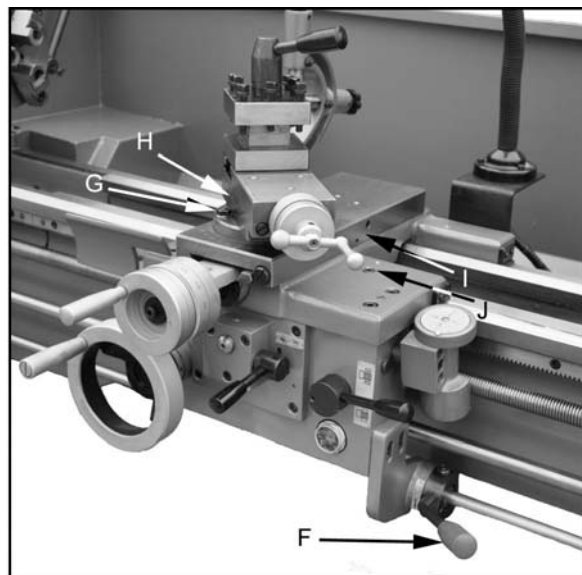

Figure 16
6. **Forward/Reverse Lever (F, Fig. 16)** – Pull lever up for clockwise spindle rotation (reverse). Push lever down for counter-clockwise spindle rotation (forward). Neutral position is a center detent and the spindle remains idle.
7. **Compound Rest Lock (G, Fig. 16)** – Turn hex nut clockwise to lock and counter-clockwise to unlock.
8. **Compound Slide Lock (H, Fig. 16)** – Turn set screw clockwise to tighten and counter-clockwise to loosen.
9. **Cross Slide Lock (I, Fig. 16)** – Turn set screw clockwise, and tighten to lock. Turn counter-clockwise and loosen to unlock. **Caution:** cross slide lock screw must be unlocked before engaging automatic feeds or damage to the lathe may occur.
10. **Carriage Lock (J, Fig. 16)** – Turn hex socket cap screw clockwise and tighten to lock. Turn counter-clockwise and loosen to unlock. **Caution:** Carriage lock screw must be unlocked before engaging automatic feeds or damage to lathe may occur.